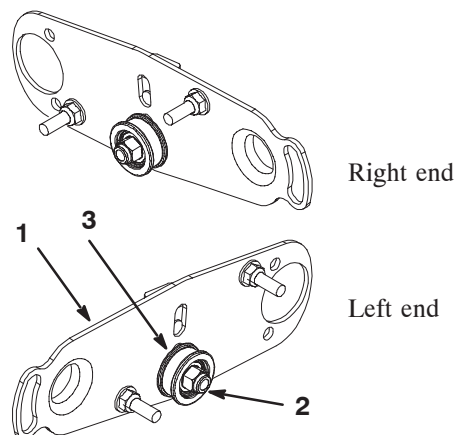

Figure 2
On the left front and left rear cutting units, the idler pulley assembly must be reversed to mount on the right end of cutting unit (Fig. 2).
- The idler pulley assembly must be removed and mounted to the lower hole in the brush plate when it is used on the right end of the cutting unit (Fig. 2).